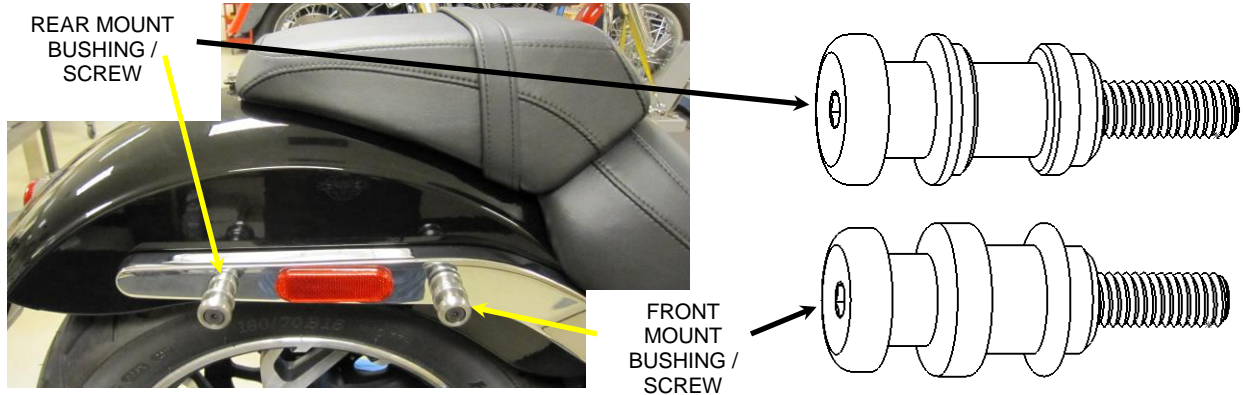

FIGURE 2
3. Insert (1) 3/8"-16 x 2-3/4" supplied screw into (1) supplied front mount bushing. Place sufficient blue Loctite on the screw threads. Install the screw and bushing into the front fender rail hole. Snug but do not tighten, see **FIGURE 2**.
4. Remove the right rear fender rail screw and saddlebag bushing, these will not be reused, see **FIGURE 1**. Insert (1) 3/8"-16 x 2-3/4" supplied screw into (1) supplied rear mount bushing. Place sufficient blue loctite on the screw threads. Install the screw and bushing into the rear fender rail hole. Snug but do not tighten, see **FIGURE 2**.